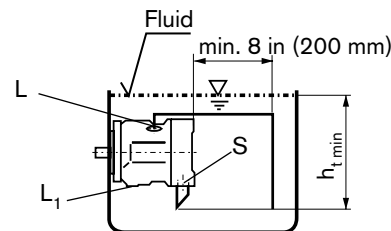

Fig. 3
a) If the min. fluid level is above the top of the pump: plug port "L₁", "L" and "S" open; it is recommended to pipe "L" and connect a suction pipe to "S" (see fig. 3)